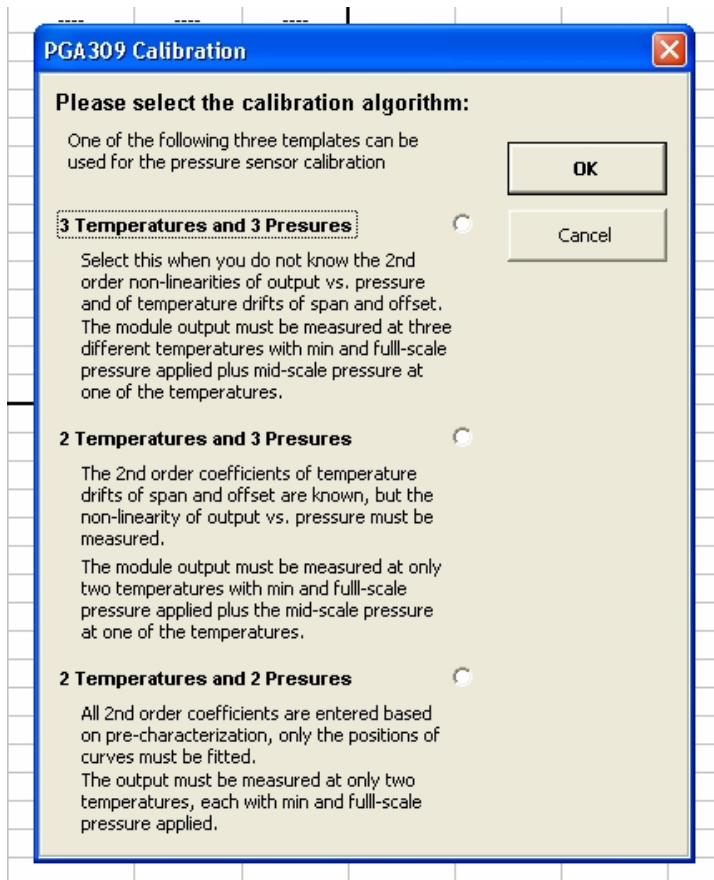

Figure 39: Select Calibration Algorithm Dialog
- D) Click "Prepare Calibration Sheet". The dialog box in Figure 39 will appear. Select the appropriate algorithm. The script will copy the right template to the "Sensor Curvfit" Worksheet and open the next page.